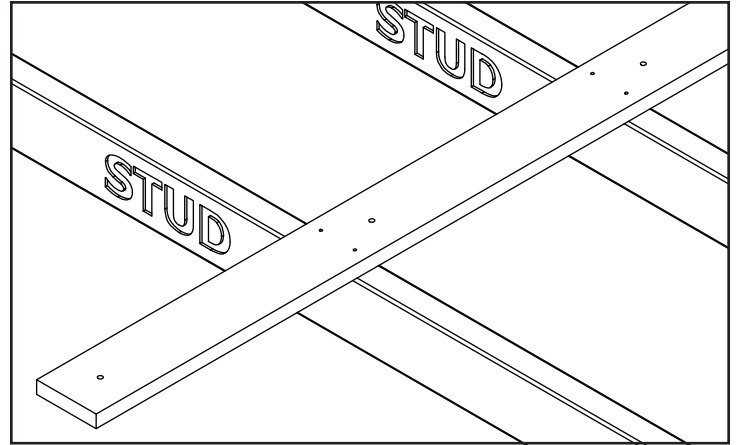

Figure 11. Backer Board Stud Alignment
1. Using a 1/8" drill bit, pre-drill for the studs, placing two holes vertically spaced along the area that will contact the stud as seen in figure 11
3. With the backer board held in position and level, secure it to at least 5 studs with the included (10) #9 X 2-1/2" wood screws